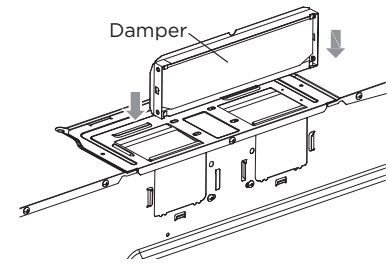

Figure 12
- Carefully match the exhaust opening location of the microwave and attach the damper to the rear plate by sliding it into the guides at the rear plate. See Figures 12, 13.